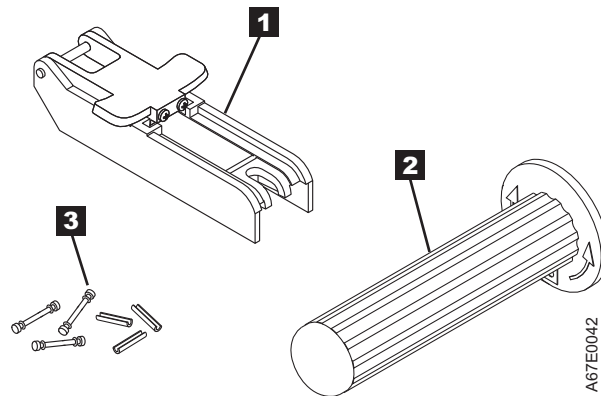

Figure 4-11. Leader Pin Reattachment Kit
- **Leader pin attach tool** (see **1** in Figure 4-11). A plastic brace that holds the cartridge door open.
- **Cartridge manual rewind tool** (see **2** in Figure 4-11). A device that fits into the cartridge's hub and lets you wind the tape into and out of the cartridge.
- **Pin supplies** (see **3** in Figure 4-11). Leader pins and C-clips.